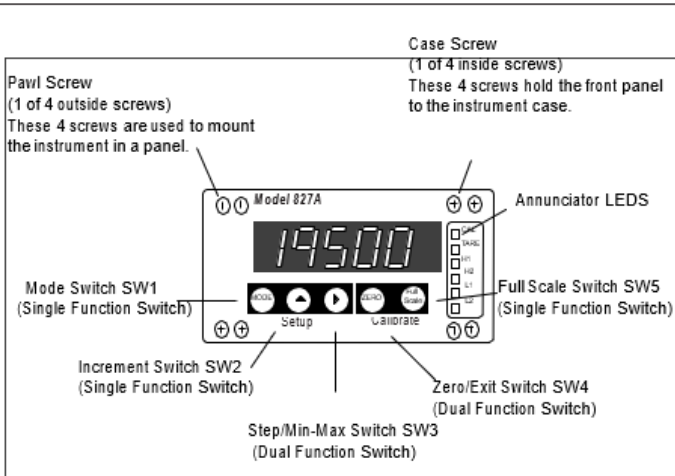

Figure 1. 827A Front Panel View
4. Depress and hold the ZERO (S4) switch for approximately 3 seconds (Reference Figure 1 on page 6). Verify ZERO annunciator LED is illuminated and the display reads 0000 +/- 0001 counts. Ignore the decimal point. The 827A is now zeroed.